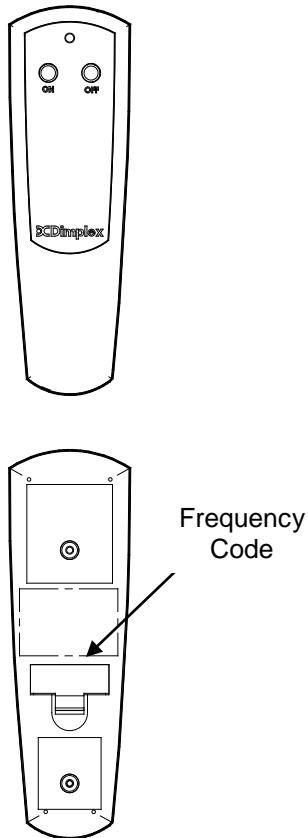

FIGURE 2
5. Press ON button located on the remote control (FIGURE 2). This will synchronize the remote control and receiver.